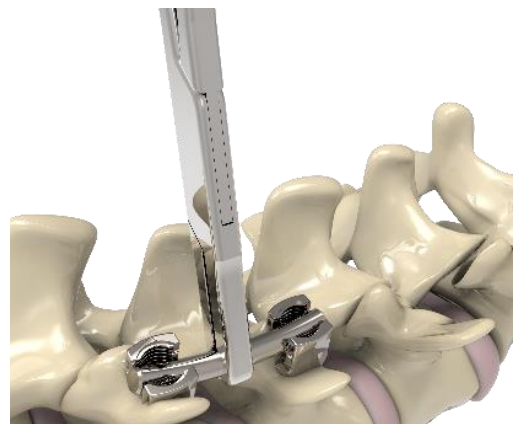

Figure 13
- Utilize the Rod Inserter Forceps (39-SP-0805) to facilitate insertion into the screw tulip (Figure 13).